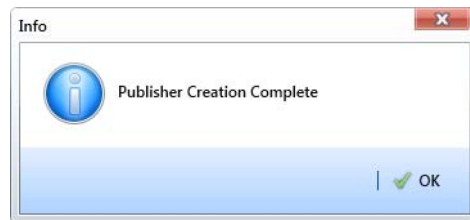

Figure 16-3. Publisher Creation Complete
- 4 Click  **OK** when the message *Publisher Creation Complete* displays (Figure 16-3, page 678).